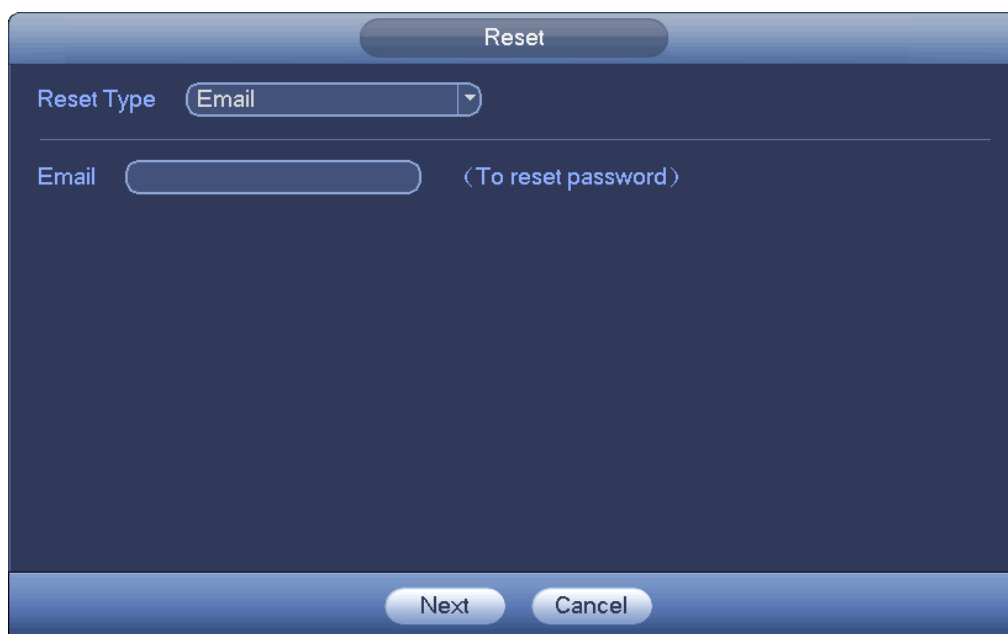
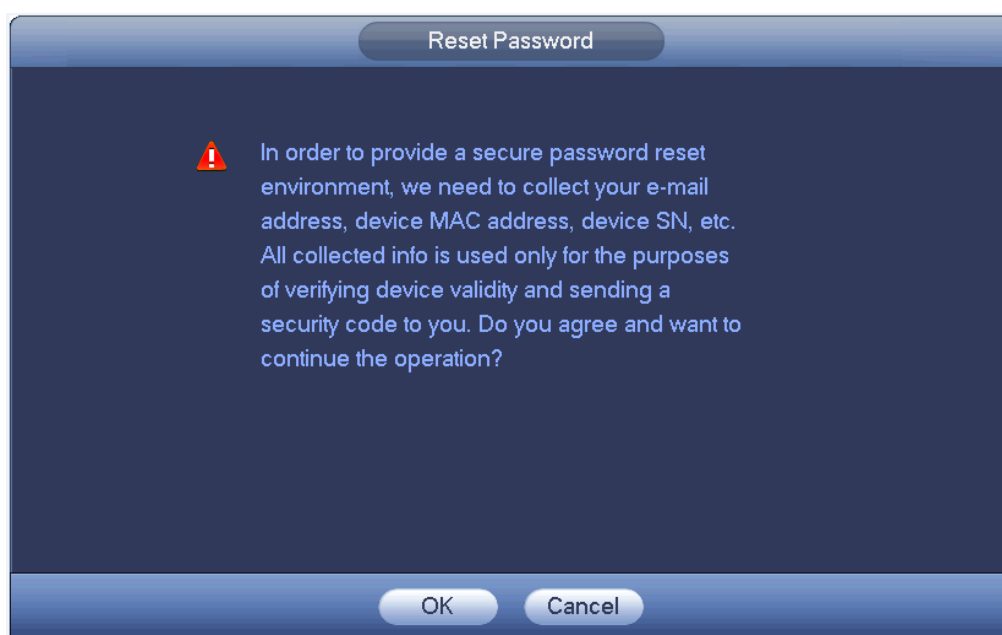

Figure 4-6
Figure 4-7
- If you have not input email address information when you are initializing the device, the interface is shown as in Figure 4-6. Please input an email address, click Next button, and then device goes to Figure 4-7.
- If you have input email when you are initializing the device, device goes to Figure 4-7.
In Figure 4-7, follow the prompts on the interface to scan the QR code, and then input the security code you get via the assigned email.
In Figure 4-6., select security question from the drop down list. Device displays security question interface. See Figure 4-9. Please input the correct answers here.